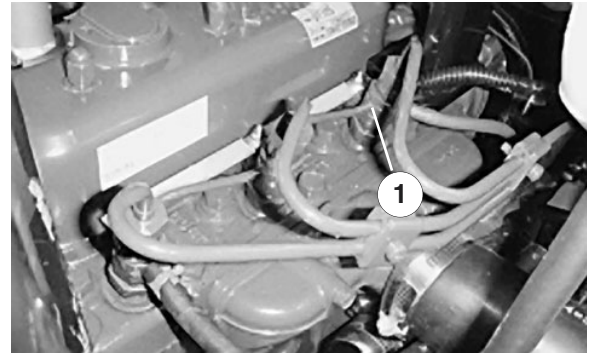

Figure 29
1. Loosen the pipe connection to the No. 1 injector nozzle and holder assembly at the injection pump (Fig. 29).